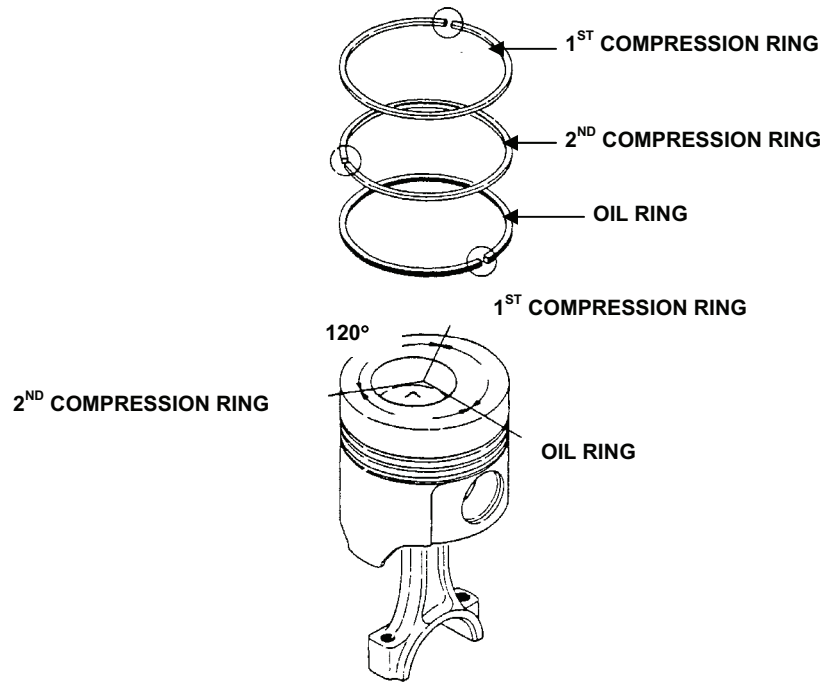

Figure 7. Piston Ring Orientation.
d. Ensure piston ring gaps are 120° apart. See Figure 7.